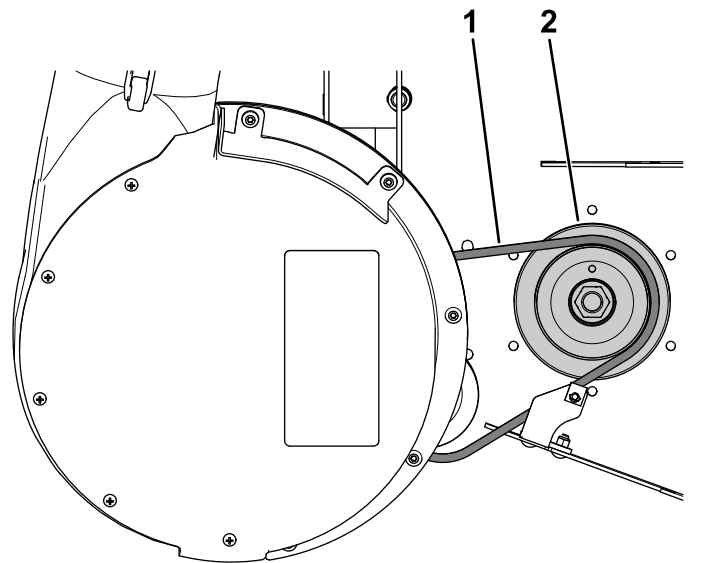

**Figure 46**
5. Install the blower-belt cover over the blower belt and secure the blower-belt cover with the belt knob (Figure 46).